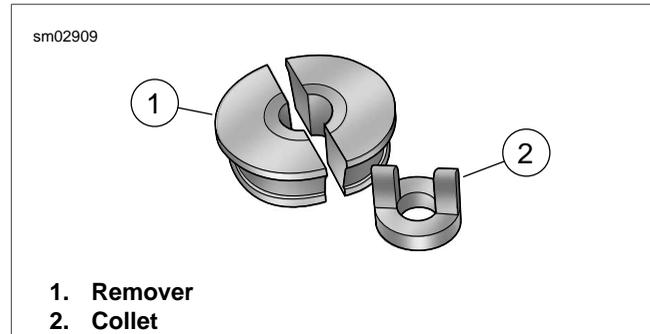
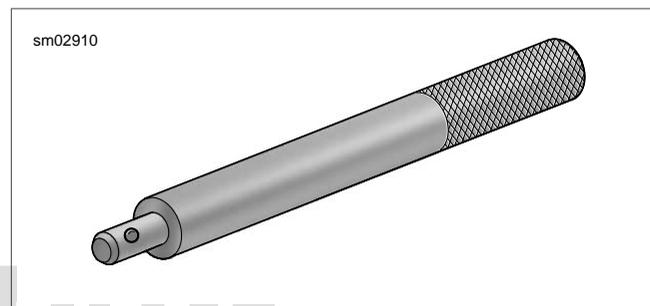

Figure 2-67. Steering Head Bearing Cup Remover (Part No. HD-39301A)
Figure 2-68. Universal Driver (Part No. HD-33416)
13. See Figure 2-67 and Figure 2-68. Obtain STEERING HEAD BEARING CUP REMOVER (Part No. HD-39301A) and UNIVERSAL DRIVER (Part No. HD-33416). Proceed as follows: